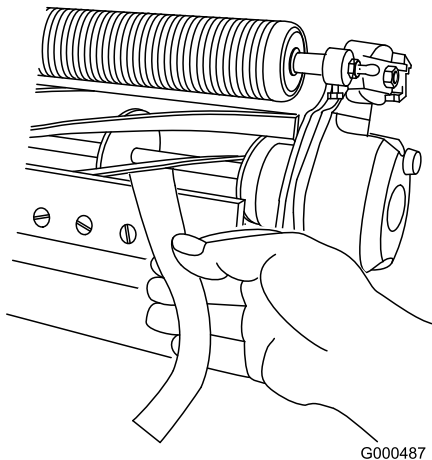

Figure 10
3. At one end of reel, insert a long strip of newspaper between reel and bedknife (Figure 10). While slowly rotating reel forward, turn bedbar adjusting screw clockwise (on same end of reel, one click at a time, until paper is pinched lightly, when inserted from the front, parallel to the bedknife. A slight drag will be noted as the paper is pulled.
5. After the adjustment is accomplished, check to see if the reel can pinch paper when inserted from the front and cut the paper when inserted at a right angle to the bedknife (Figure 10). It should be possible to cut the paper with minimum contact between the bedknife and the reel blades. Should excessive reel drag be evident, it will be either necessary to backlap or regrind the cutting unit to achieve the sharp edges needed for precision cutting (see the Toro Reel Sharpening Manual).